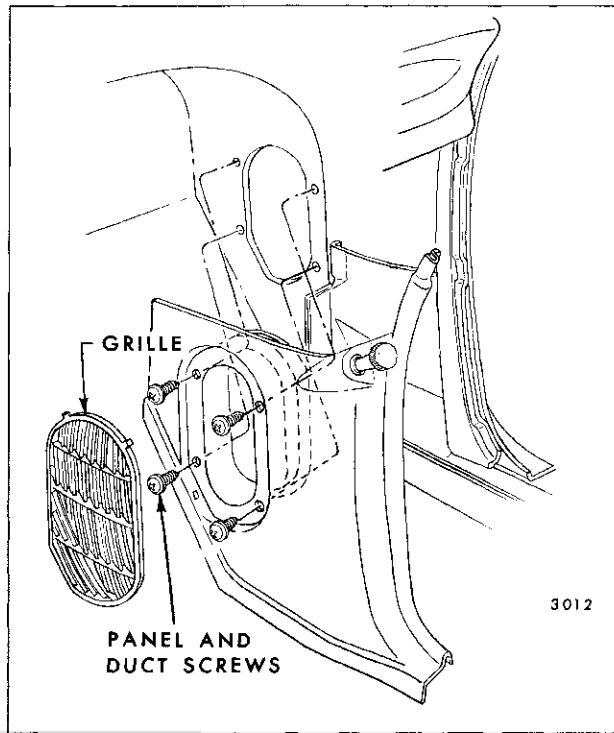

Fig. 5-5—Shroud Side Finishing Panel and Air Outlet
2. On "A, Z" and 26657 Styles pry the grille from the finishing panel with a flat-bladed tool (screwdriver or equivalent) as shown in Figure 5-5.
3. On all styles, remove screws attaching finishing panel and duct assembly to the shroud ventilator duct side panel (Fig. 5-5).